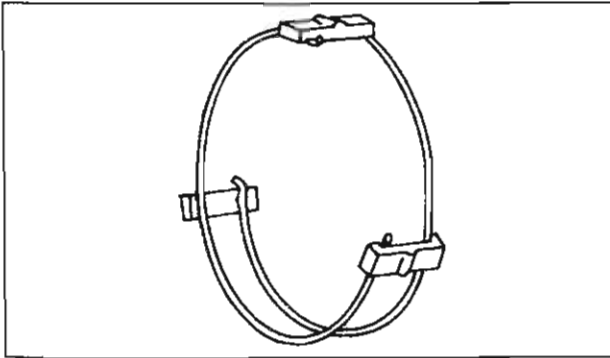

Fig. 7-16 Installing of key springs
1. Assemble the third-and-top synchronizer mechanism by installing the clutch hub onto the sleeve, placing the three synchronizer keys into the clutch hub key slots and installing the key springs onto the clutch hub. When installing the key springs, the open ends of the springs should be kept 120° apart as shown in Fig. 7-16, so that the spring tension on each key will be uniform.